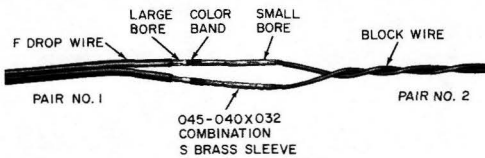

Fig. 11—Sleeves Installed (Drop to Block)
- (1) Prepare the ends of drop wire (pair No. 1) and the ends of block wire (pair No. 2) as described in Parts 3 and 4.
- (2) Match tracer conductors and insert skinned ends of pairs 1 and 2 into the proper bores of 045-040 $\times$ 032 combination S brass sleeves. Crimp the sleeves slightly with diagonal pliers to restrain the conductors from slipping out.
- (3) Starting 1/16 inch from one end of a sleeve, press each sleeve four times with the sleeve presser. See Fig. 11.